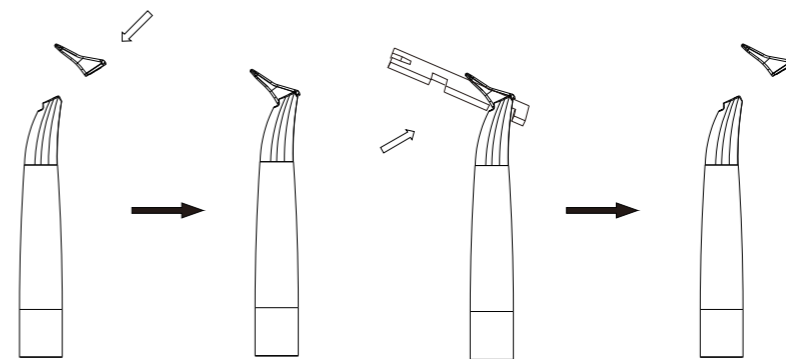

Figure 3
2) Fasten the subgingival blasting nozzle to the blasting handpiece (this operation is not performed during the supragingival sandblasting and polishing). (See figure 3)